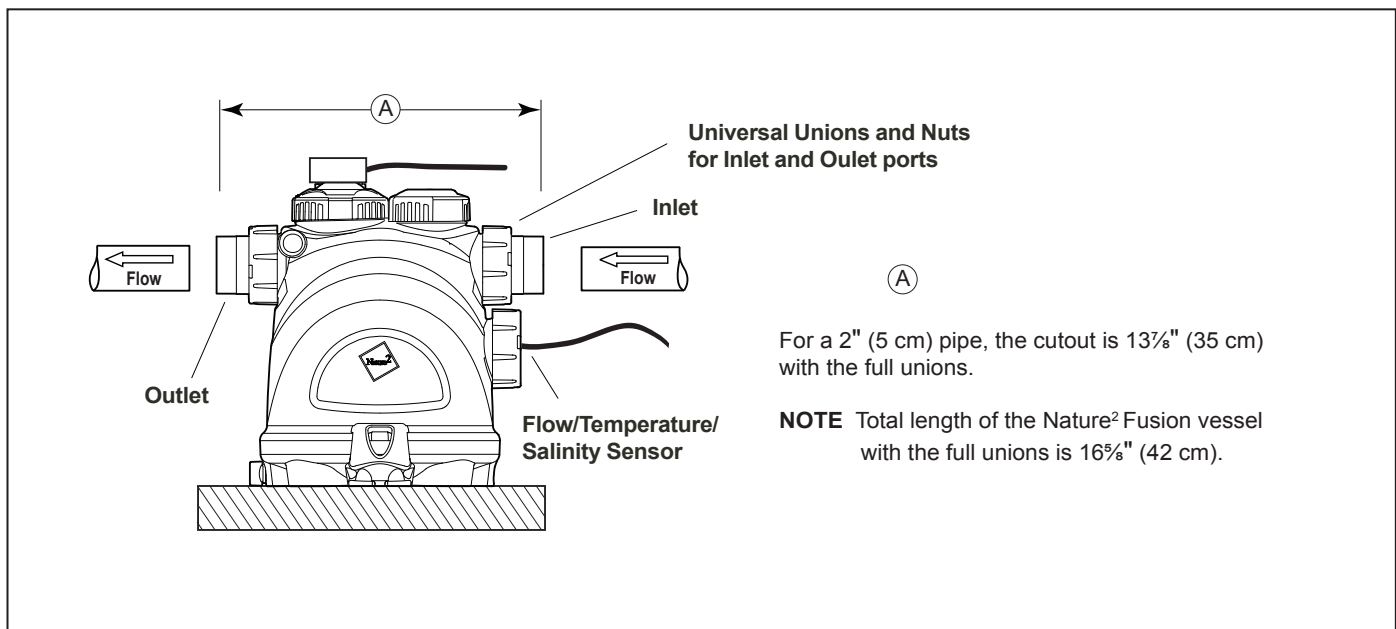

Figure 3. Pipe Cutout
4. Cut out a 13⁷/₈" (35 cm) section of the 2" (5 cm) pipe to insert the vessel (see Figure 3).